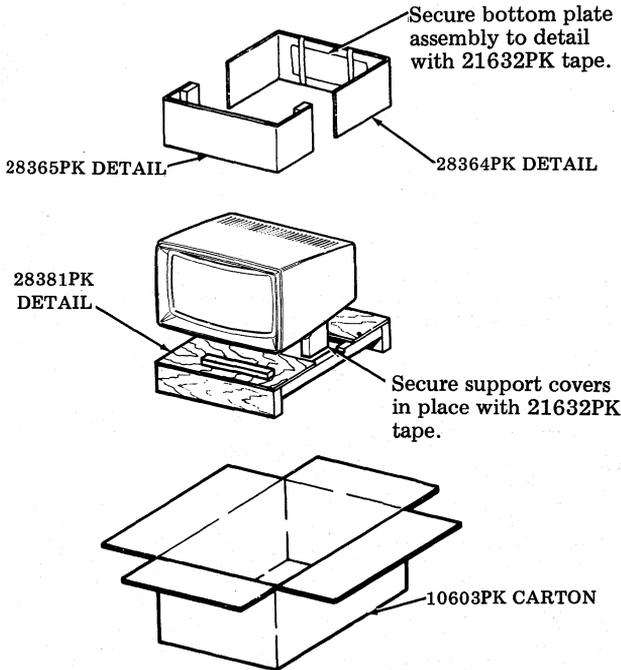

Fig. 8
- Step 1. Preassemble all parts to bottom of main frame. Mount assembly to a 28381PK pallet with two 28051PK spacers, four 71699RM screws, four 72316RM lock-washers and four 72296RM flat washers. Tighten screws securely. (See Fig. 8.)
- Step 6. Form a 28365PK detail and place in carton at front of unit as illustrated in Fig. 8.